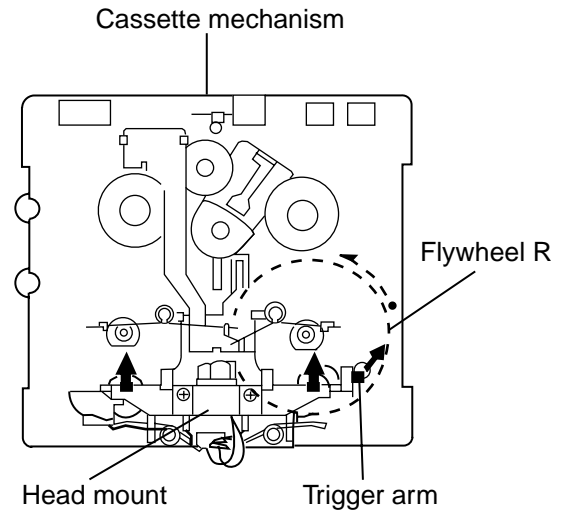

Fig. 1
■ **Removing the Playback/Recording & Eraser Head** (See Fig. 1 to 3)
1. While shifting the trigger arms seen on the right side of the head mount in the arrow direction, turn the flywheel R in counterclockwise direction until the head mount has gone out with a click (See Fig. 1).